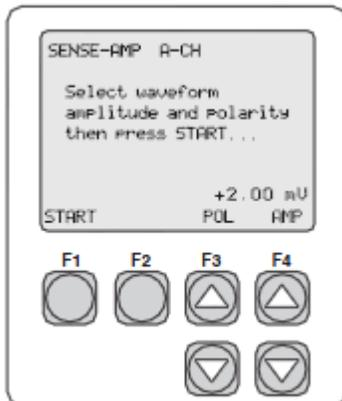

Fig 8
Optional: Testing may be repeated using a “Negative Polarity” test waveform. To perform refer to Fig. 8 and using the up arrow below “F3” to change polarity of test. Again to test sensitivity in the opposite polarity is not required. Only testing sensitivity in either a positive or negative phase is required.
- *Press “F4” down arrow to decrease “AMP” (test amplitude) to .05mV. Fig. 8*